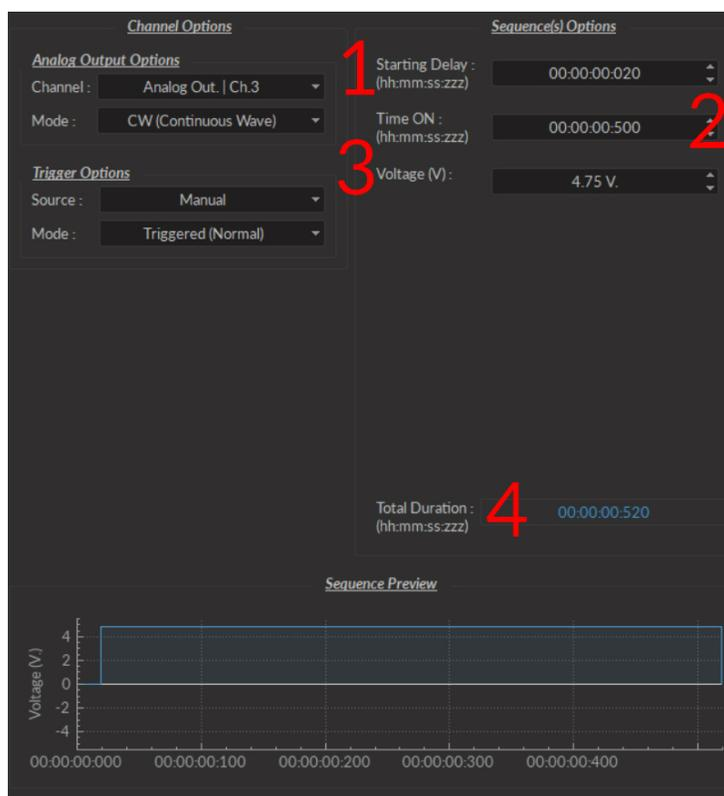

Figure 3.5: Channel(s) configuration window, Analog Output CW
- The **CW (Continuous wave)** channel mode (Fig. 3.5) allows the creation of a continuous analog signal. The following elements appear in the **Sequence Options** box.
1. The **Starting Delay** (Fig. 3.5) defines the time between the activation of the pulse sequence and the beginning of the signal.
2. The **Time ON** (Fig. 3.5) defines the length of time the continuous signal is active. Should the time chosen be 0, the signal will continue until the pulse sequence is stopped manually.
3. The **Voltage** (Fig. 3.5) defines the voltage of the continuous signal, in volts. The signal cannot go beyond ± 4.75 V.
4. The **Total Duration** (Fig. 3.5) shows the total expected duration of the pulse sequence. Should the duration be infinite, the box will display ∞ . If there is an error in parameter selection, this box will display **N/A**.